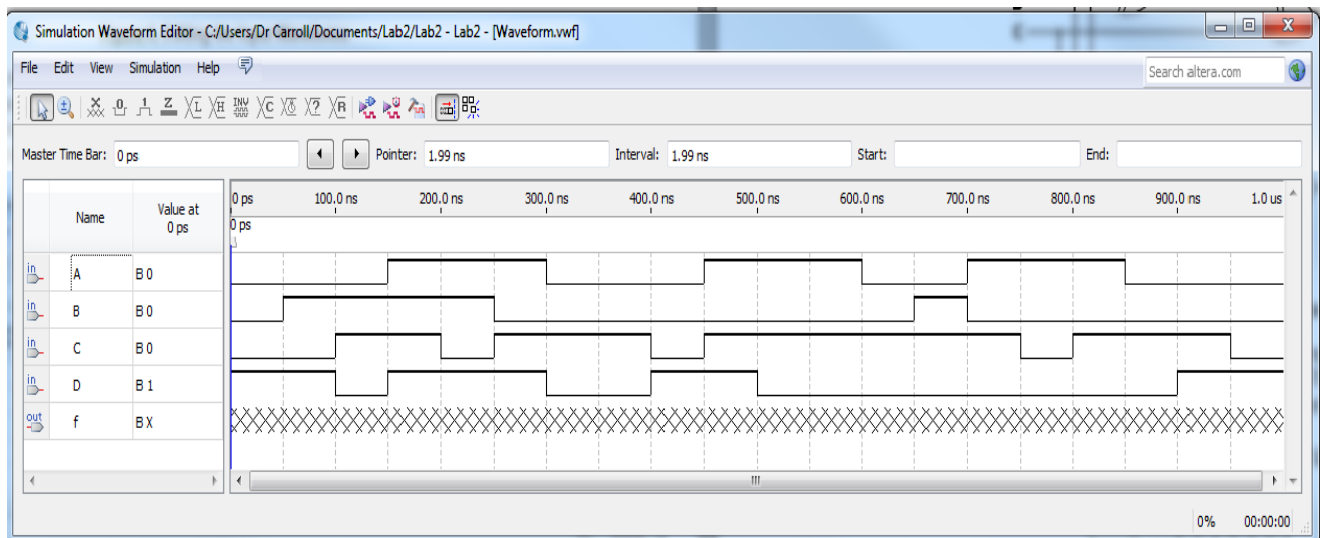

Figure 6. Editing the Input Waveforms
6. Then click on the **>>** button to copy all the nodes from the left pane to the right pane as **Selected Nodes**. Then click **OK** button. You will be returned to the **Insert Node or Bus** window. Again click the **OK** button. That will return you to the Waveform Editor window. Observe that in the wave editor window, all the input signals (**A,B,C** and **D**) are at logic level 0 and the output **f** is shown undefined (X) for the entire simulation period (i.e, 1000ns).
- a. Click on the **A** waveform near the **150ns** point and then drag the mouse to the **300ns** point. The selected time interval will be highlighted in blue. Now click on the Forcing to High(1) button () from the toolbar to make the selected waveform to logic high level. You can also do this by clicking **Edit ► Value ► Forcing High(1)**. Similarly force high the **450ns-600ns**, and **700ns-850ns** ranges of A waveform.
- e. Finally the Waveform Editor window should look like one shown in Figure 6.